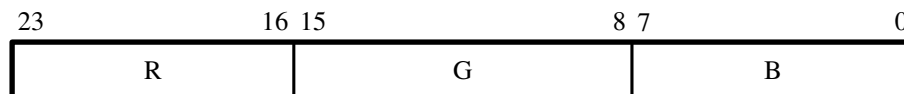

Figure 14. 24-bit RGB Color Space.
- 24-bit RGB — This format uses 8 bits for each color as shown in Figure 14. This mode is defined as 8 bits per color and three color planes.